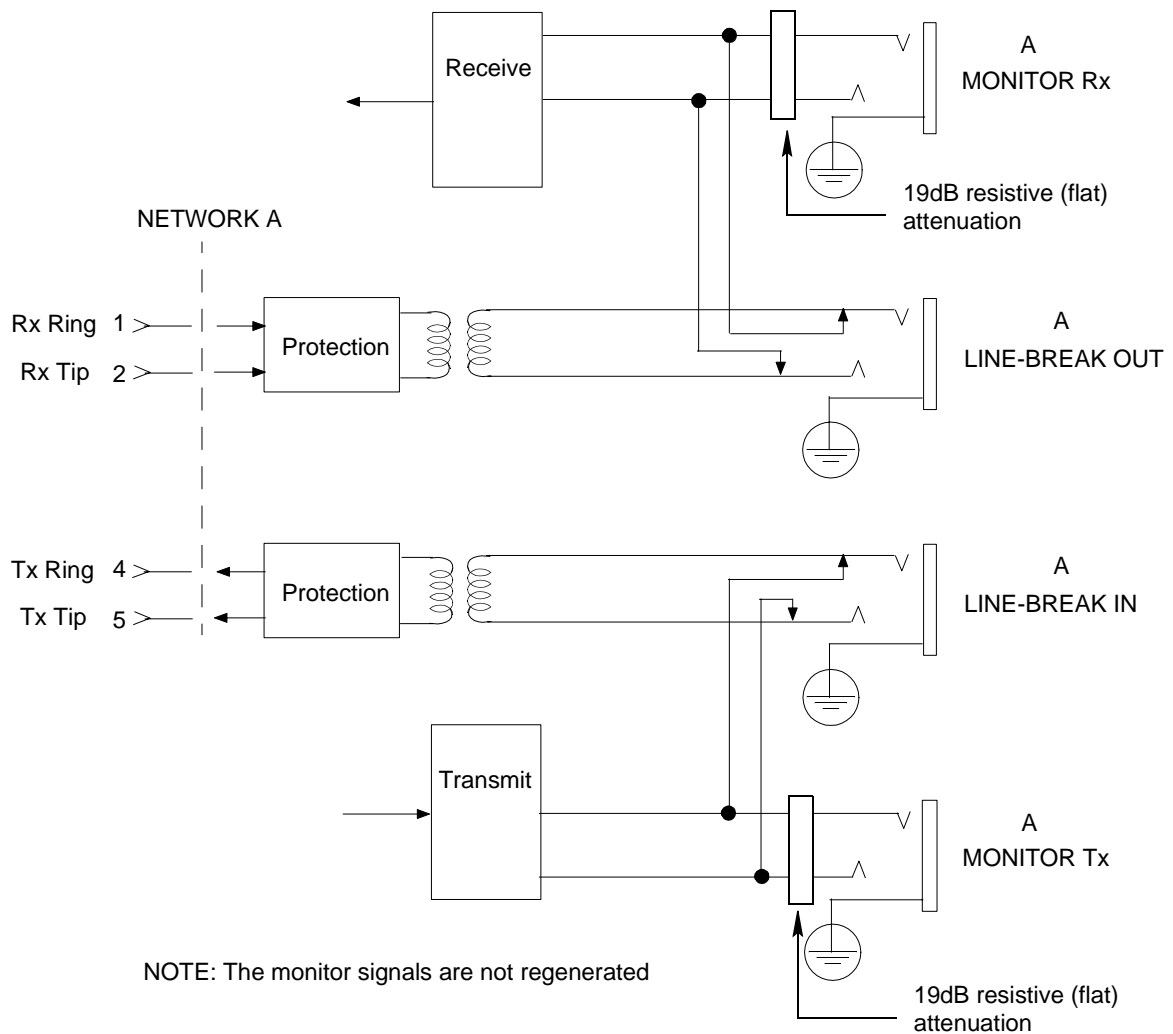

Figure 9 Line-Break and Monitor Jack Functions for LIU A (LIU B is similar)
- Supports LINE-BREAK jacks (see Figure 9) on the Platform Card front panel to allow connection of test equipment to the cross-connect.